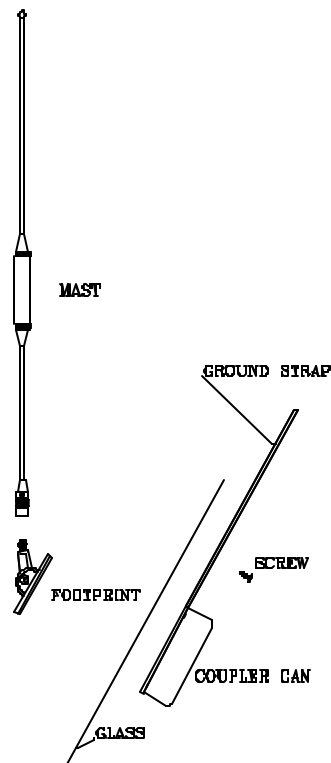

Figure 4 - General Assembly
3. Clean glass with the alcohol pad and adhere coupling box. Clean the outside of the window with the same alcohol pad, remove the adhesive backing on foot and place over the center of the coupling can (Refer to Figure 4 – General Assembly).